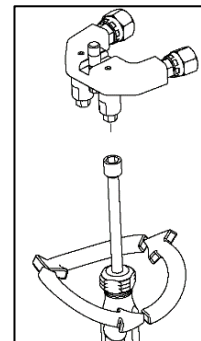

Figure 6: Closing Manual Valves
3. Ensure the **Manual Valves** are **CLOSED** by turning them to the full clockwise position using supplied 5/16" nut driver. (see Figure 6).